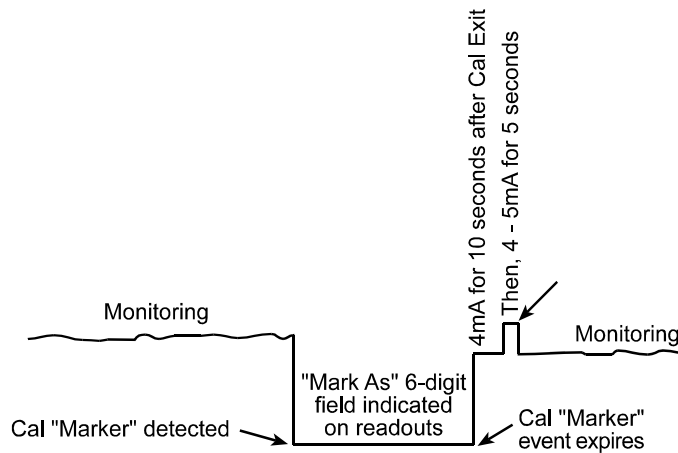

Figure 2-19
**Sensor Life** should only be activated when the Marker event is *Calibration* and when a sensor life value is transmitted after each calibration. This feature is provided primarily for use when interfacing the GM 64 to R. C. Systems' ST-48 Sensor Transmitters which may be configured to transmit sensor life values after each calibration (Figure 2-19). For **Sensor Life** to record properly the monitor must perform as follows: After the *Calibration* Marker interval, 4.0mA transmits for 10 seconds to indicate its *calibration mode* is complete. The monitor then transmits between 4.0mA and 5.0mA for five seconds depending on remaining sensor life where 4.0mA = 0% and 5.0mA = 100% remaining sensor life. The GM 64 reads this value and records it as the channel's **Sensor Life**. **Sensor Life** is stored in the GM 64 Modbus database and displayed as a bar-graph in the Sensor Info screen (see section 2.7.7). It is a useful tool for planning sensor replacement schedules.